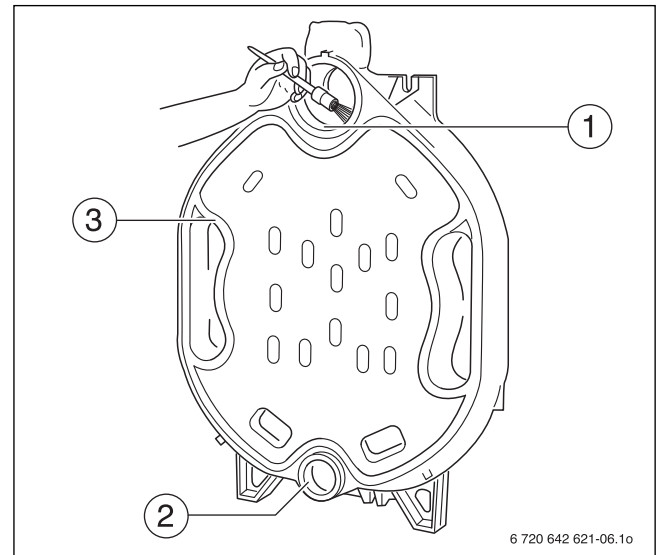

Fig. 10 Preparing the packing grooves and hubs
- ▶ Clean the packing grooves where required using a wire brush and cloth (Fig. 10, [3]).
- ▶ Clean the hub sealing faces (Fig. 10, [1 and 2]) with a rag soaked in solvents or gasoline.